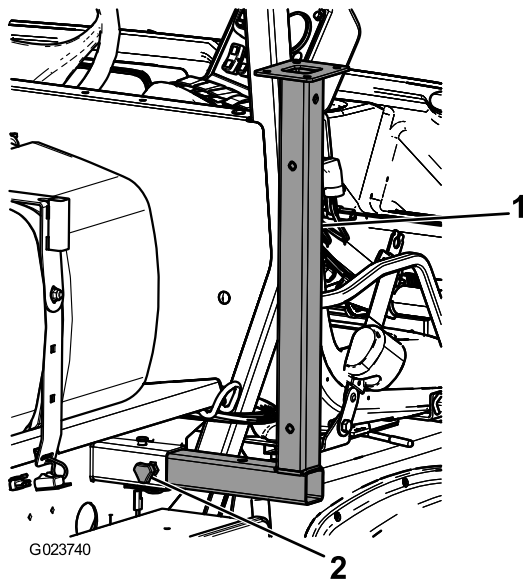

Figure 49
1. Insert the front jack stands upside down into the frame near the front tie-down points (Figure 49).